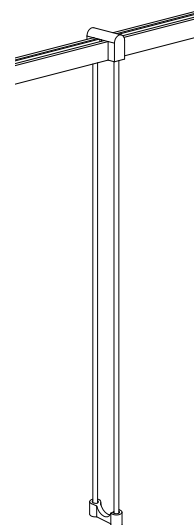

Fig. 39
2. Press down firmly on the top of the **Luminaire Hanger**, while pressing up on the bottom of the **Power Bar**, until the Luminaire Hanger clicks into place (Fig. 39).